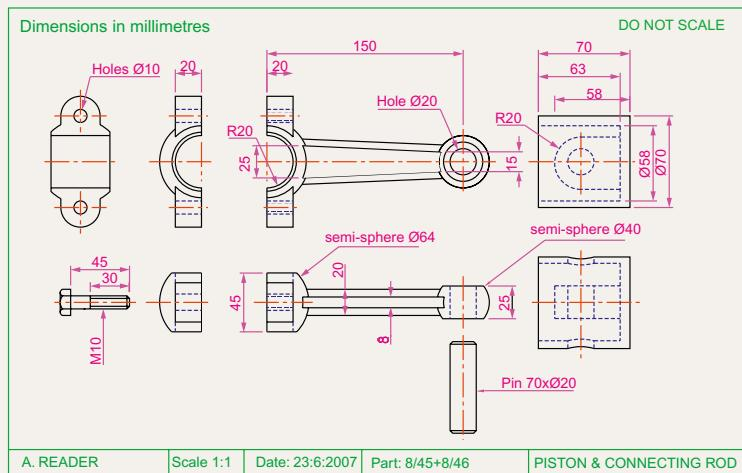

Fig. 11.15 Exercise 1 – exploded orthographic projection
- Fig. 11.15 is an exploded orthographic projection of the parts of a piston and its connecting rod. There are four parts in the assembly. Small drawings of the required sheet set are shown in Fig. 11.17.
Construct the drawing Fig. 11.15 and also the four drawings of its parts. Save each of the drawings in a **Layout1** format and construct the sheet set which contains the five drawings (Fig. 11.17).